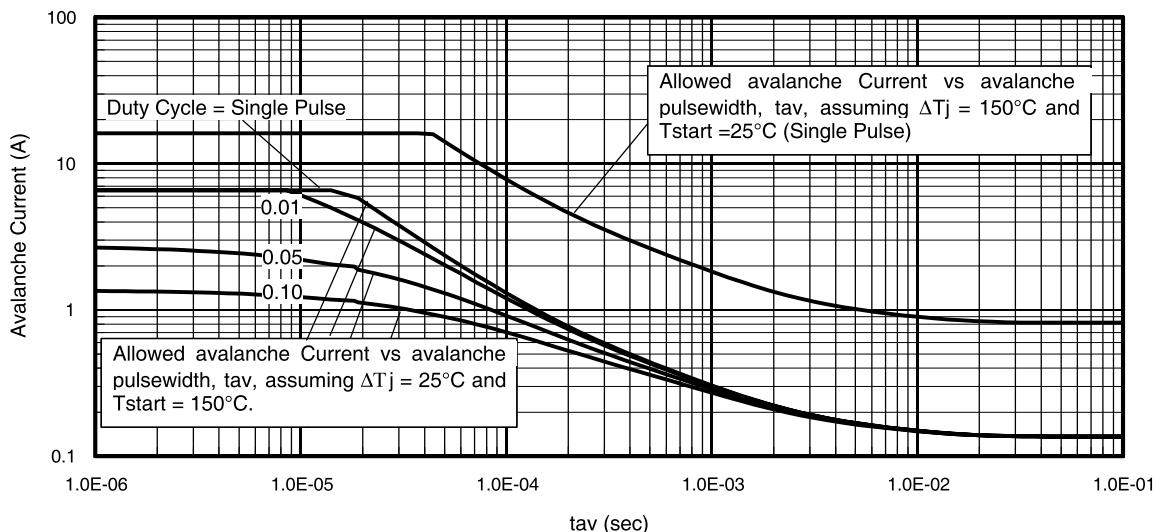

Fig 14. Typical Avalanche Current Vs. Pulsewidth
- ① Repetitive rating; pulse width limited by max. junction temperature.
- ② Starting $T_J = 25^\circ\text{C}$, $L = 1.46\text{mH}$, $R_G = 25\Omega$, $I_{AS} = 10\text{A}$.
- ③ Pulse width $\leq 400\mu\text{s}$; duty cycle $\leq 2\%$.
- ④ R_θ is measured at T_J of approximately 90°C .
- ⑤ Limited by T_{jmax} . See Figs. 14, 15, 17a, 17b for repetitive avalanche information
Notes on Repetitive Avalanche Curves , Figures 14, 15:
7. ΔT = Allowable rise in junction temperature, not to exceed T_{jmax} (assumed as 25°C in Figure 14, 15).